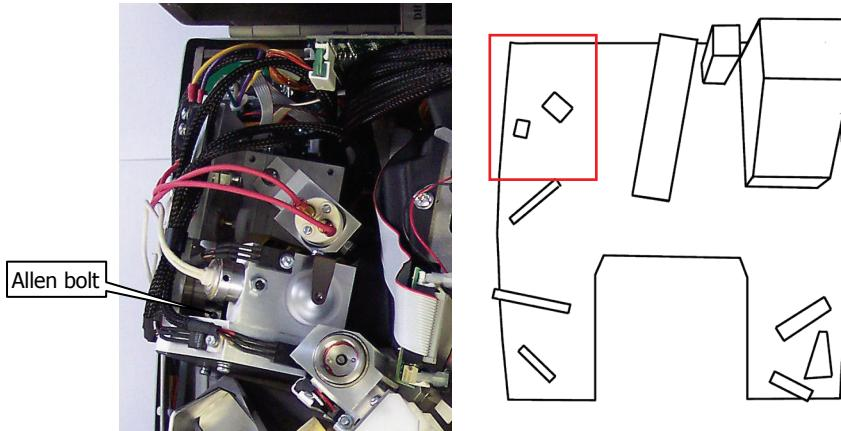

Figure 7 Location of Spectrum 400 Dual-Source Mirror Assembly
7. Position the source (Figure 4) or dual-source (Figure 7) mirror assembly on the kinematic balls in the spectrometer, make sure the bolt is vertical, and then carefully tighten the bolt.